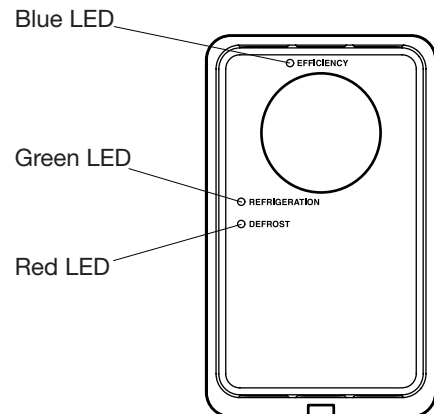
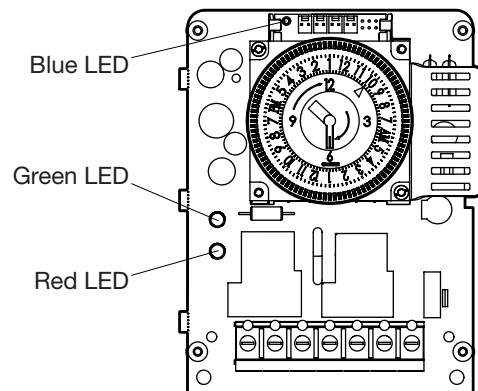

FIG. 12 LEDs (Enclosed Model Shown)
FIG. 13 LEDs
5. See TABLE 2 and FIG. 12 or FIG. 13 to verify proper operation of the DDT40 control.